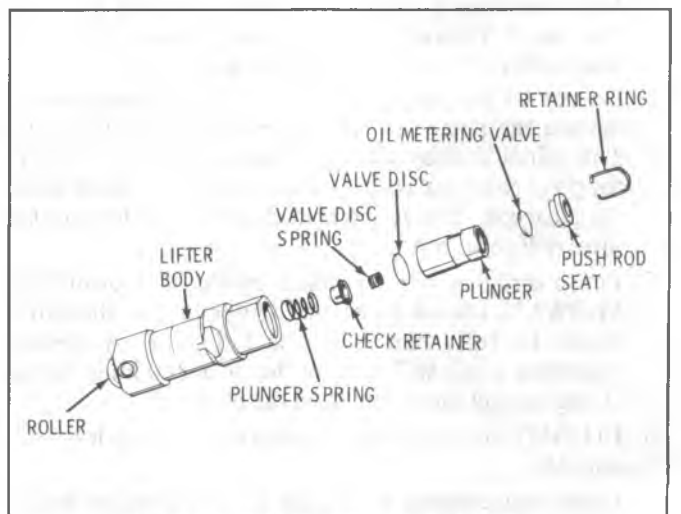

Fig. 6A6-45--Valve Lifter-Exploded View
2. Assemble valve disc spring and retainer into plunger. (Fig. 6A6-45). Make sure retainer flange is pressed tight against bottom of recess in plunger.